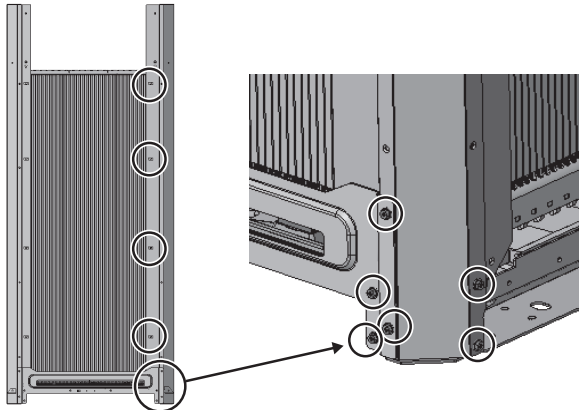
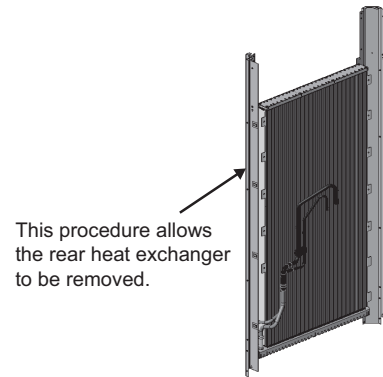

Fig. 26 Right
Fig. 27 Rear heat exchanger unit drawing
(3) Remove the screws that secure the rear and right pillars. (10 screws: Fig. 26 and Fig. 27)